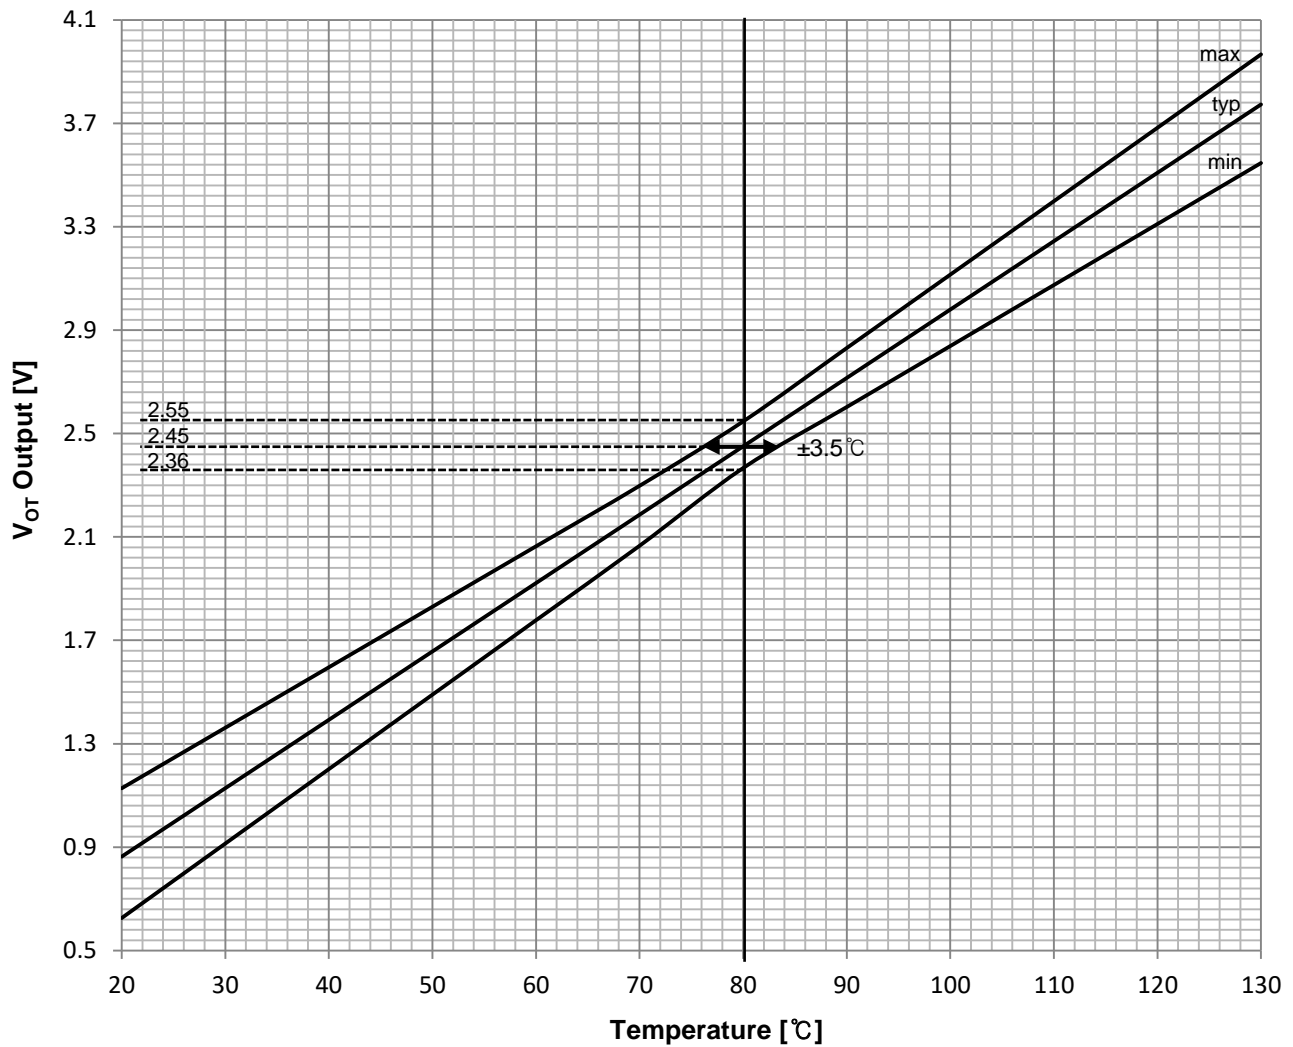

Figure 3. Temperature of LVIC vs. V_{OT} Output Characteristics
- The IPM does not shutdown IGBTs and output fault signal automatically when temperature rises excessively. When temperature exceeds the protective level that the user defined, the controller (MCU) should stop the IPM. Temperature of LVIC vs. V_{OT} output characteristics is described in Figure 3.